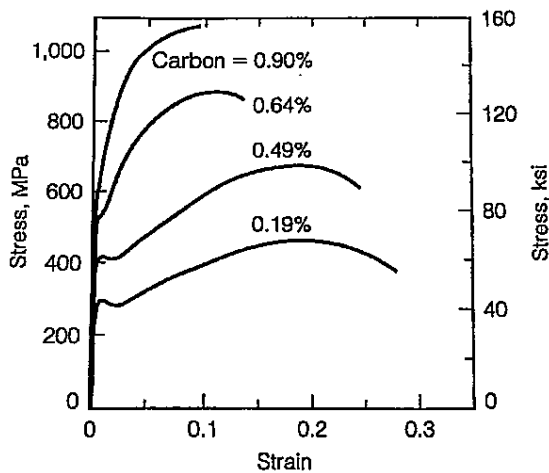

Figure 1
1. Figure 1 shows the tensile stress-strain diagram for steels containing different carbon content.